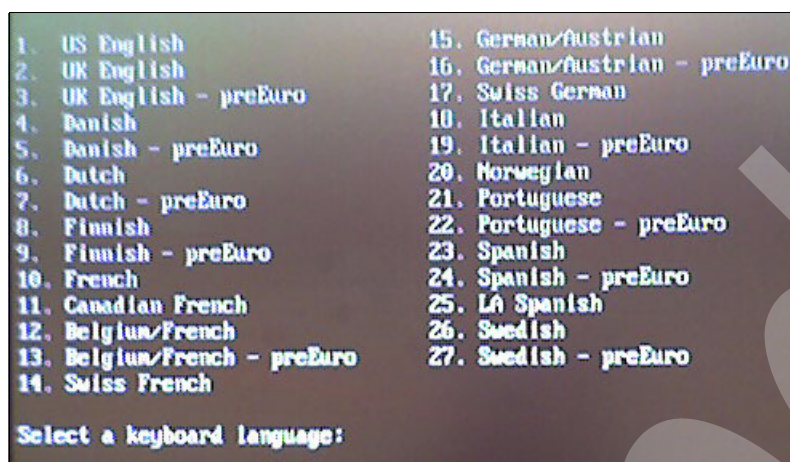

Figure 4-45 Keyboard language
13. In the next screen (Figure 4-45), select a keyboard language.